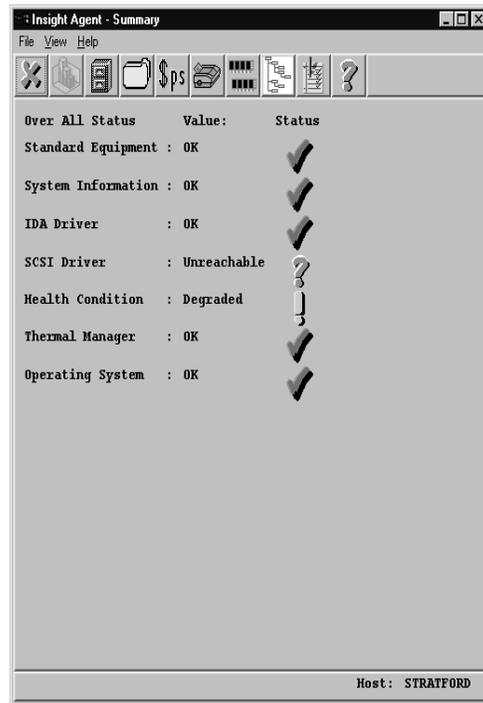

Figure 3-6. Agent View of Compaq Management Agents showing System Summary Status
- Compaq Insight Manager Agent View showing detailed information on hardware-level system status, as shown in Figure 3-6.